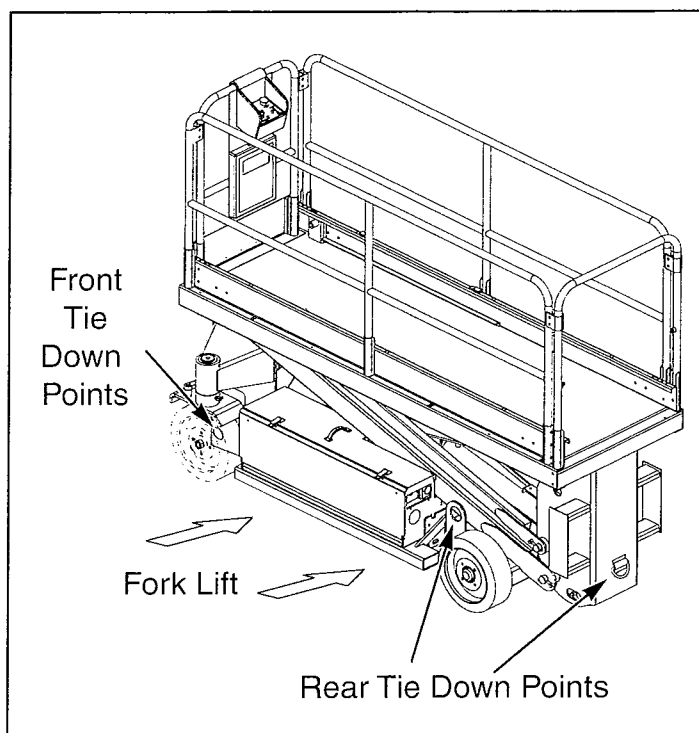

Figure 2-2: Transporting Work Platform
Forklift from the side by lifting under the chassis modules (Figure 2-2).
Secure straps to chassis lift points **only** (Figure 2-2).
2. Secure the work platform to the transport vehicle with chains or straps of adequate load capacity attached to the chassis tie down lugs (Figure 2-2).